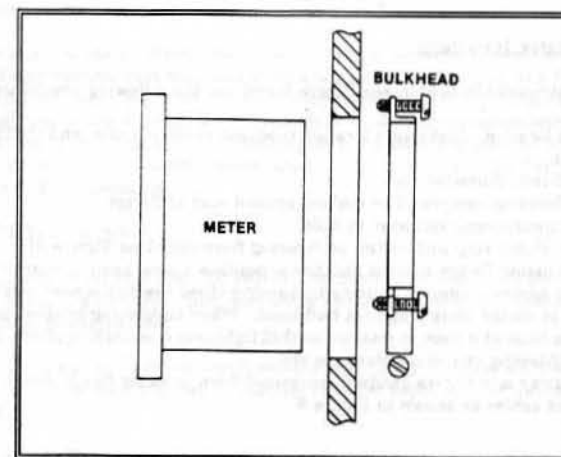

Figure 8. Bulkhead Mounting Diagram
To install the instrument/indicator, see Figure 8 and use the following procedure:
- e. Loosen clamp ring and install on housing from rear (see Figure 8).